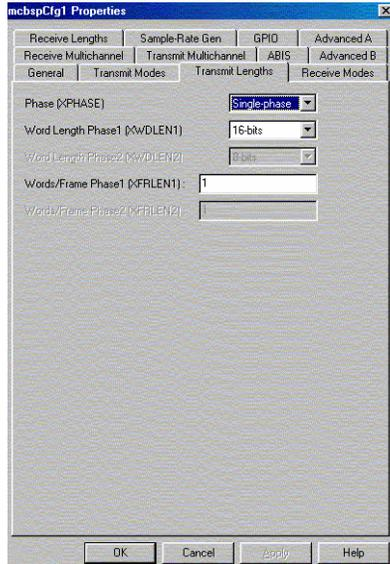

Figure 10 McBSP Transmit Length Tab
- In the *Transmit Length* tab, select options as shown in Figure 10. Set for single-phase, 16-bit transfers.
1. Right click on DMA configuration manager and select *insert dmaCfg* twice. This creates two objects called dmaCfg0 and dmaCfg1. DMA channel 4 and 5 are utilized for this application, so rename the objects to dmaCfg4 and dmaCfg5, as shown in Figure 10.